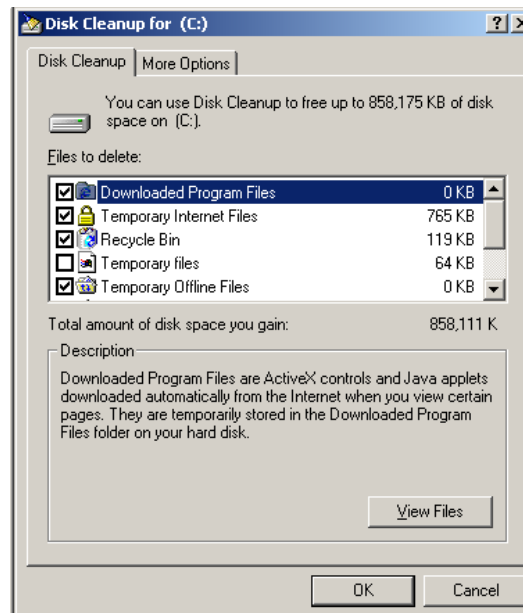

Figure 5-63. Disk Cleanup for (Selected Drive)
3. When Windows finishes calculating the cleanup it displays the **Disk Cleanup for** dialog box. See Figure 5-63. Check or uncheck the desired files to delete and click **OK**. Windows deletes the files and closes the dialog box.